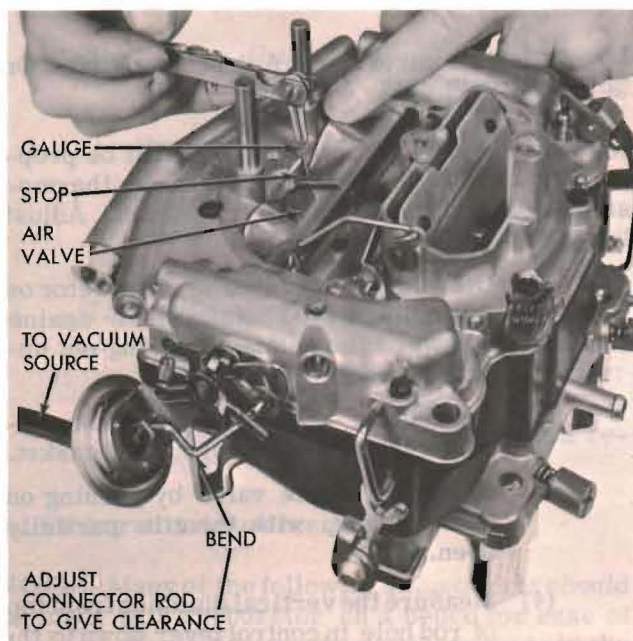

Figure 23. Adjusting Choke Diaphragm Connector Rod
- (1) Make sure the diaphragm assembly is securely mounted on the carburetor. Apply a vacuum of 10 or more inches of Hg. to the diaphragm to fully depress the diaphragm stem.
- (2) With the air valve closed, adjust connector rod to provide clearance between air valve and stop as specified for the particular carburetor involved. (See figure 23.)